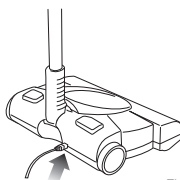

Fig. 3
- 2 Insert the charger plug into the hole on the back of the unit. Plug the charger into a wall outlet. The light next to the power button will illuminate when the unit is charging. If the unit is plugged in and the light is not illuminated, press the power button once. The light should now be illuminated indicating that the unit is charging. (Fig. 3)